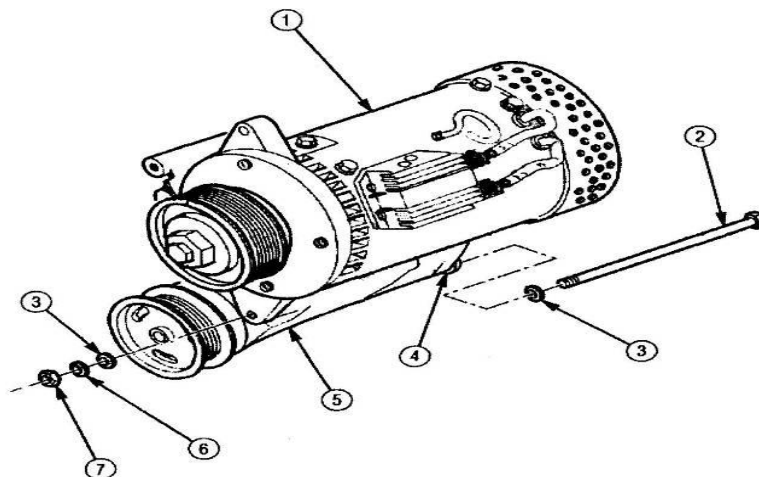

Figure 34
(5) Using a lifting device, position the 400 Amp Alternator (1) on the Alternator/Power Steering Support Bracket 12469497-1 (5). **Do not remove the 400 Amp Alternator from the lifting device.**
(6) Secure the 400 Amp Alternator (1) to the Alternator/Power Steering Support Bracket (5) with long screw B1821BH056F950N (2) at the rear end of the Alternator/Power Steering Support Bracket (4), along with using two MILW1085TYPEA washers (3), MS35338-30 lock washer (6), and 225860 nut (7) as shown in **Figure 34**. **Do not tighten nut (7) at this time.**